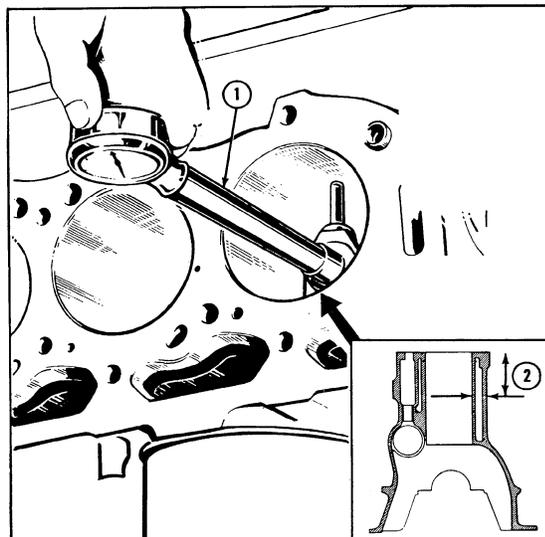
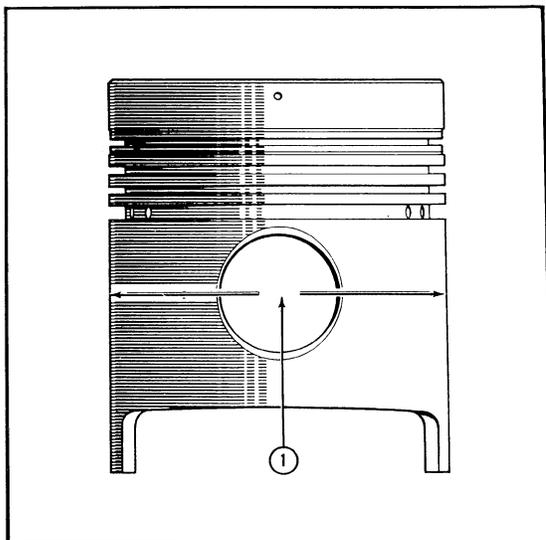

Figure 48
Figure 49
14. With a bore gauge (or inside micrometer) measure the cylinder bore diameter across the block at a depth of 2.75 in. (69.8 mm), Figure 48. Check and record the diameter of the piston measured at right angles to the piston pin, Figure 49. Subtract the piston diameter from the bore diameter to obtain the piston to bore clearance. If the specified clearance is unobtainable, refinish the bore to the next piston oversize.